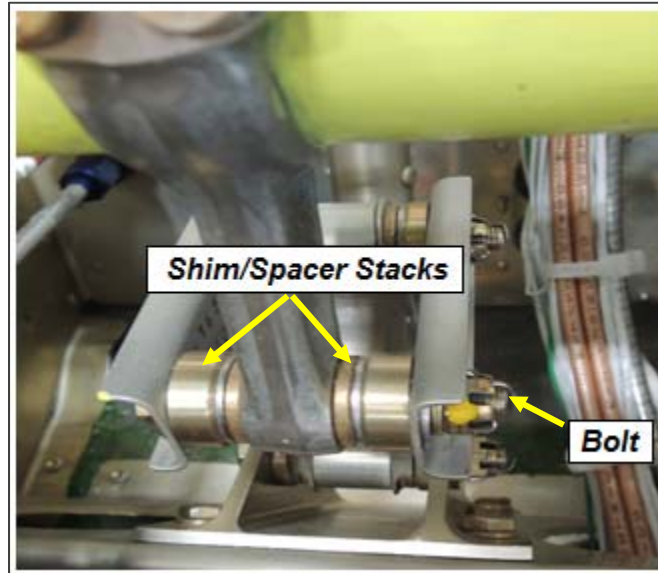

Figure 7. Copilot Collective Socket/Collective Bellcrank Linkage
6.3.11 Disconnect one bolt from the collective bellcrank attachment bracket. Take note of the shim and spacer stack when removing the hardware (Figure 7).
- 6.4.15 Reattach the collective bellcrank to the collective socket arm (Figure 7).